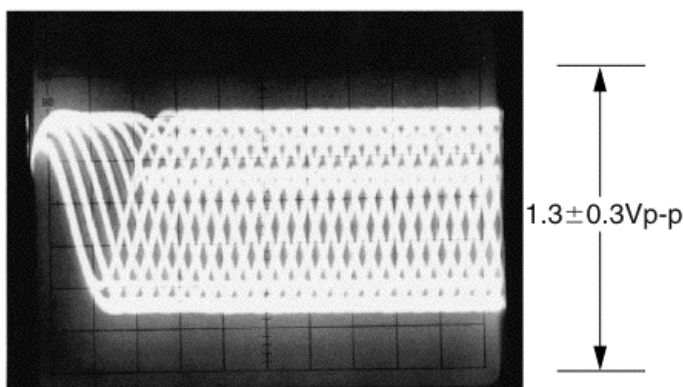

FIGURE 28-14 Adjust RV502 for a sharp eye pattern with clean diamond shapes.
- 1 Connect the oscilloscope to test point RF on the MD main board (Fig. 28-14).